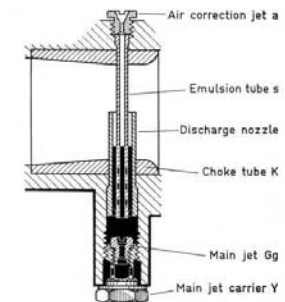

Fig. 26 Assembly No. 22
**d) Jet Assembly No. 22 (fig. 26)**